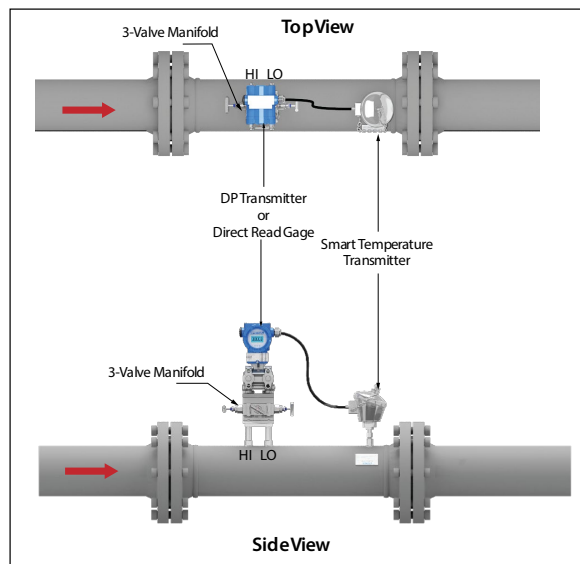

Fig 16: Horizontal Installation for Gases
- The pressure taps on the primary device should be between the center of the horizontal line and the pipe (3 o'clock to 12 o'clock or 9 o'clock to 12 o'clock) shown in figure 16.